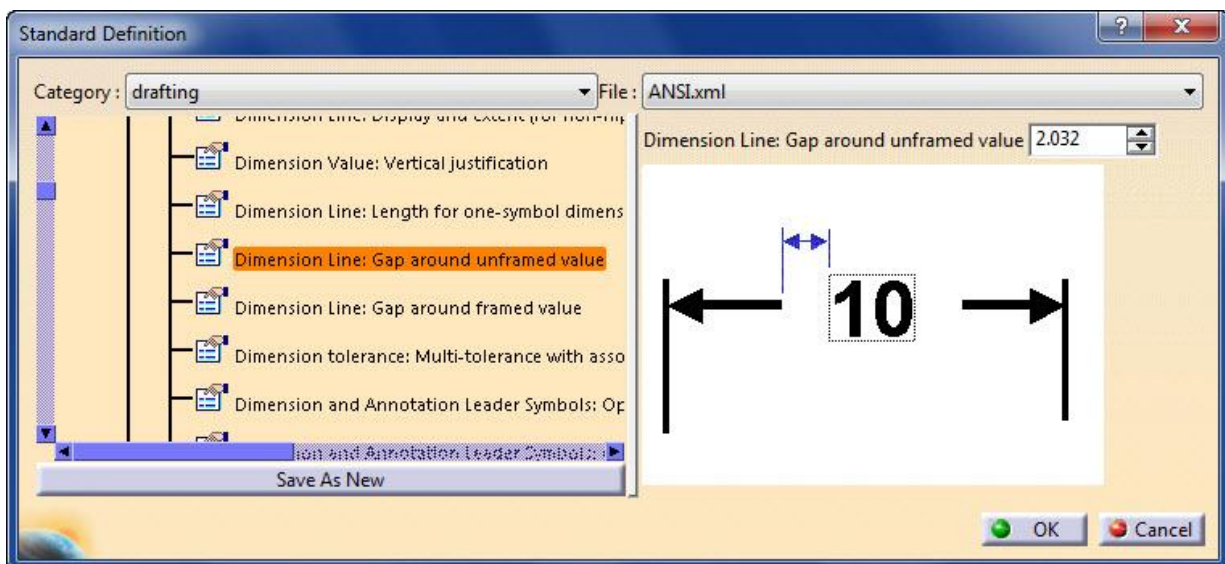

Figure 12 - New Drawing Window showing the New Drafting Standard
- In the example shown in Figure 12, the **Dimension Line: Gap around unframed value** is being changed